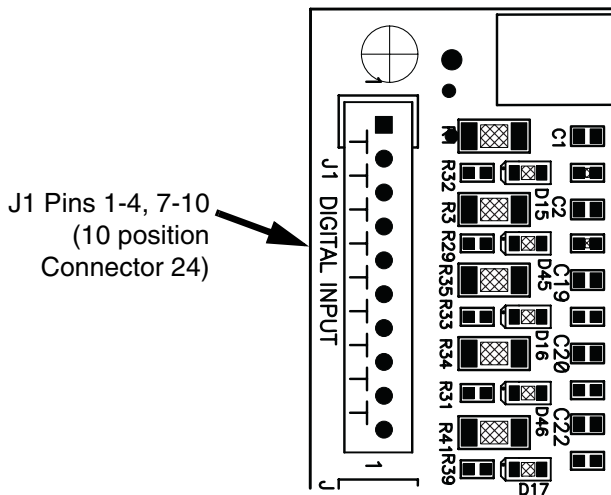

FIG. 9: RoboMix Control Board J1 Connections
2. Connect the 10 position connector (24) to J1 on the control board. See FIG. 9.